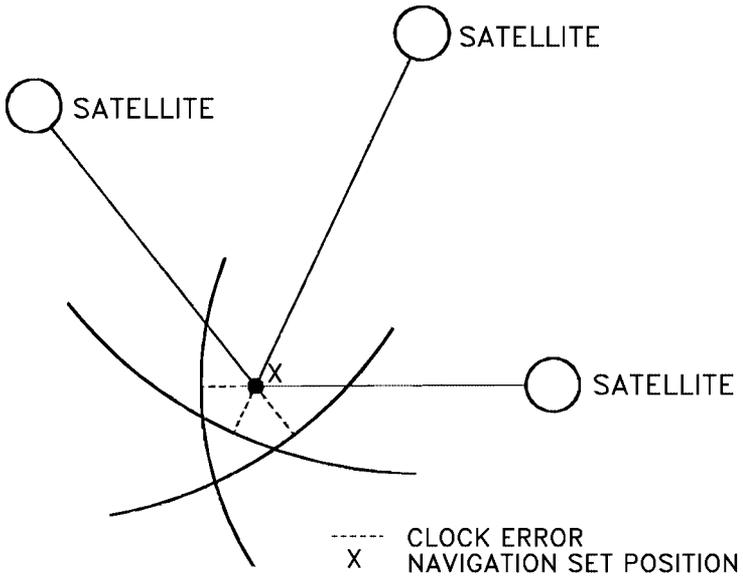

Figure 1-4 Navigation Set Clock Error.
1.1.2.3.3 Navigation Set Clock Error. Refer to Figure 1-4 for a diagram of nav set clock error. The nav set determines distance to a satellite by measuring the time difference between signal transmission and signal reception. The time of signal transmission is derived from the satellite code sequence and satellite nav data. The time of satellite signal reception is derived from the nav set clock. When the nav set clock is not in sync with the satellite clock, the time measurement is not accurate. The error is compounded by the distance calculation so the position of the nav set is not accurately defined. The fourth satellite provides the additional measurement data needed for the nav set to calculate the clock error common to all distance measurements. The clock error is removed from the distance measurements, and the correct nav set position is found.